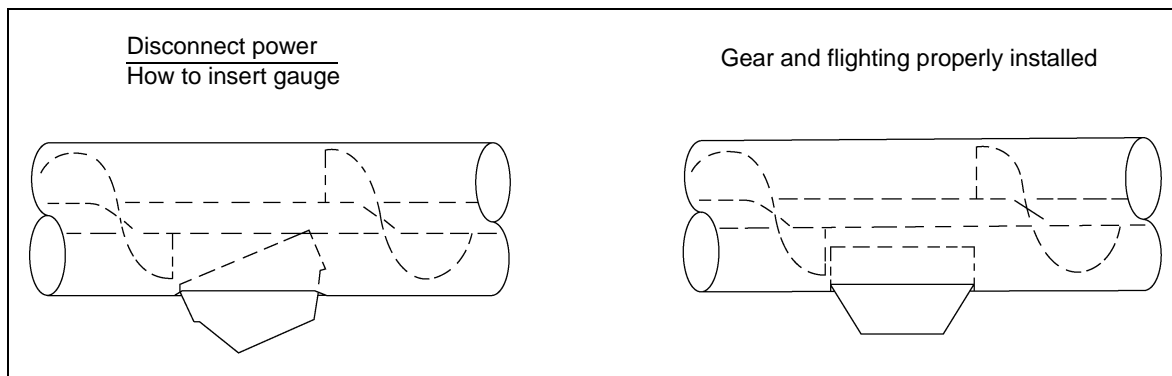

Figure 16E
**NOTE:** The discharge auger flighting was cut-out to provide clearance for the sensor. Before the actual installation of the sensor, check very thoroughly through the slot in the discharge tube to see that the cut-out flighting on the discharge auger is positioned so it is centered with the slot in the discharge auger tube and will not catch the sensor. To check this, insert the clearance gauge provided into the sensor slot as shown in Figure 16E.